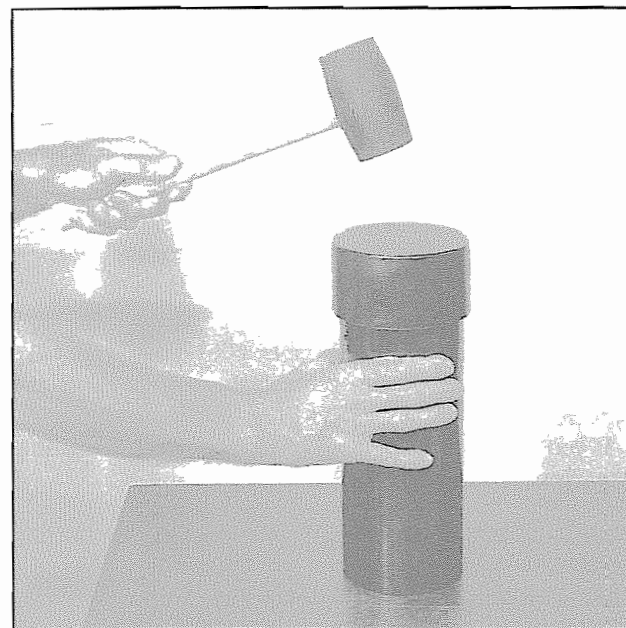

Figure 4-76. The cap is hammered into place with a rubber mallet.
4. Glue the pipe cap onto one end of the pipe, and *use plenty of glue*. Lather it thickly onto the inside wall of the cap. Then *immediately* press the cap onto the pipe, and hammer it on *tight* with a rubber mallet (**Figure 4-76**). **Important note.** Let the glue to dry for a full 24 hours before placing the chamber under a vacuum.